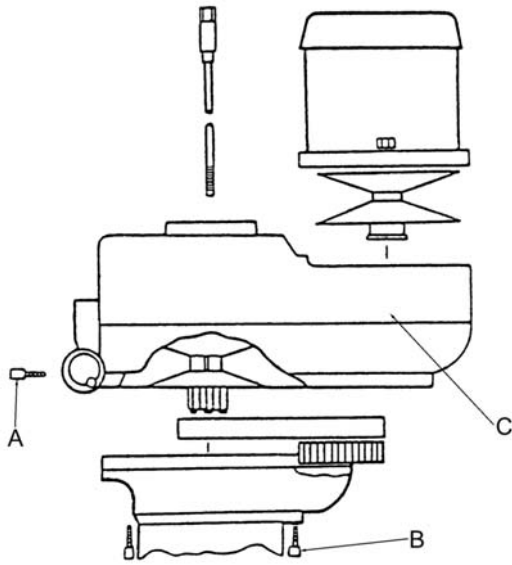

Figure 15
4. Remove the two lower screws from the variable speed housing (A, Fig. 15).
5. Remove the six screws (B, Fig. 15).
6. Remove the top assembly (C, Fig. 15) and tap to clear dowels.